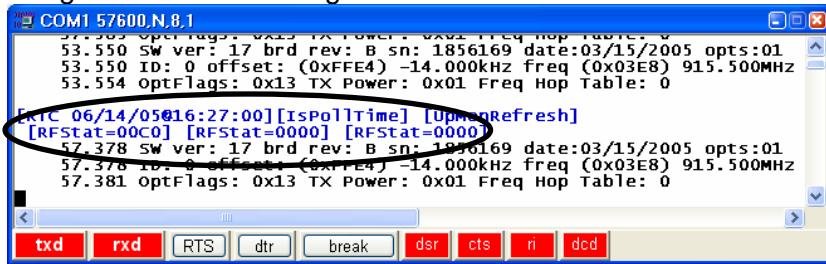

Fig. 8.7: RF Stat=0000
- 8.5.9 Verify **RF Stat=0000** on RF Default screen in DataHub Lite menu tree, Fig. 8.6 or in the Floating terminal screen. Fig. 8.7